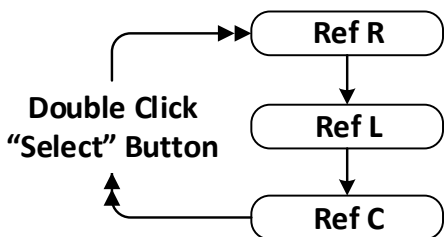

Figure 3-19: Switch Sorting Type by Double Clicking the "Select" Button
- Double click the "Select" button to switch sorting type as Figure 3-19 shows.